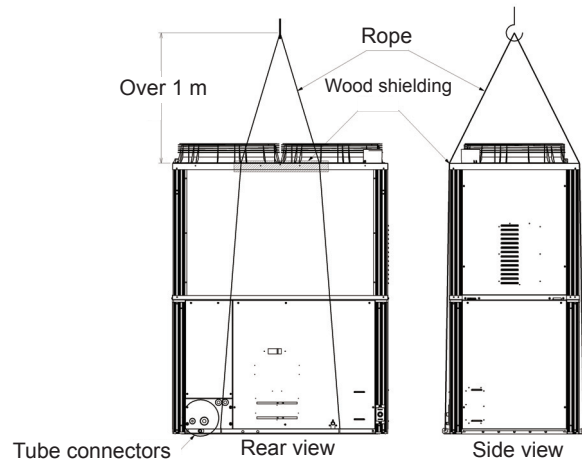

Fig. 15
- For hoisting, pass the rope over the hoisting brackets on the unit vase at 4 locations. (Fig. 15)
- Insert wood separators as protective shielding when using the hoist to prevent the outer casing from being scratched or deformed by the rope. Be sure not to touch or apply pressure on tube connectors. (Fig. 15)